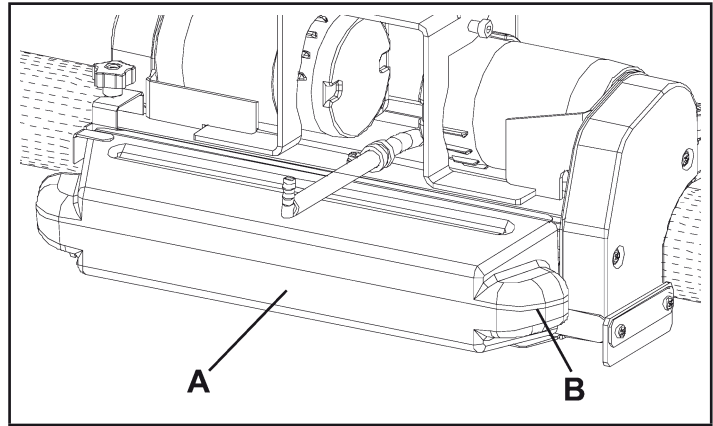

Figure 29
4. Lower the cylindrical brush-holder deck and remove the debris container (A, Fig. 29) by pulling it on one side with the handle (B).